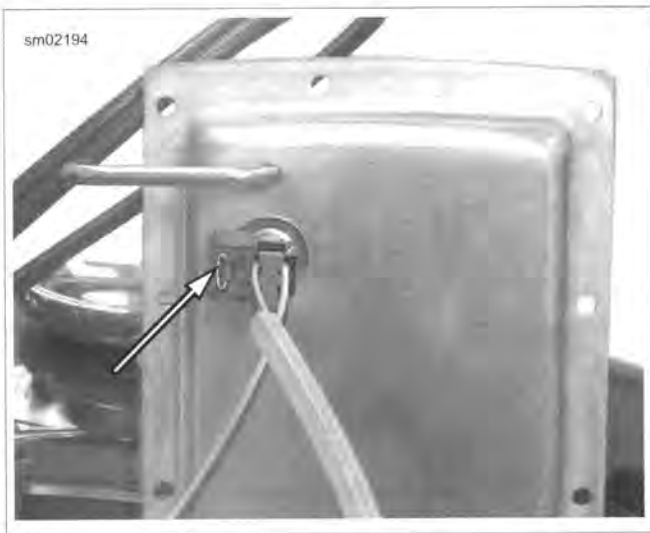

Figure 7-67. Connector Tab
9. See Figure 7-67. Press tab and remove fuel pump/sender wiring from top plate. Remove top plate.